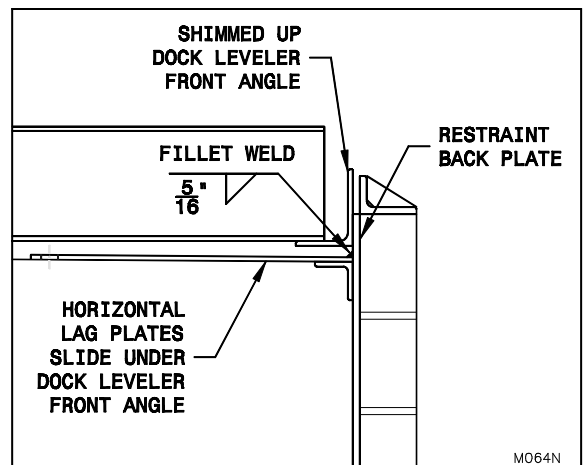

Figure 5: Horizontal Lag Plate Installation
- a) If there is a gap (as a result of shimming the dock) between the front angle of the dock leveler and the dock leveler pit floor of 1/4" or more, place the horizontal lag plates onto the dock leveler pit floor, directly behind and perpendicular to the back plate of the restraint, and slide the horizontal lag plates under the front angle of the dock leveler until they butt up against the back plate of the restraint. See "Figure 5: Horizontal Lag Plate Installation" on page 11. (If no gap is present, proceed to item 2.h) and follow the Pour-In Dock Leveler instruction.)
- d) Pull the restraint away from the wall and place a minimum 5/16" fillet weld the full width of the horizontal lag plate to the back plate of the restraint. See "Figure 5: Horizontal Lag Plate Installation" on page 11.
- g) Proceed to item 3 on page 12.